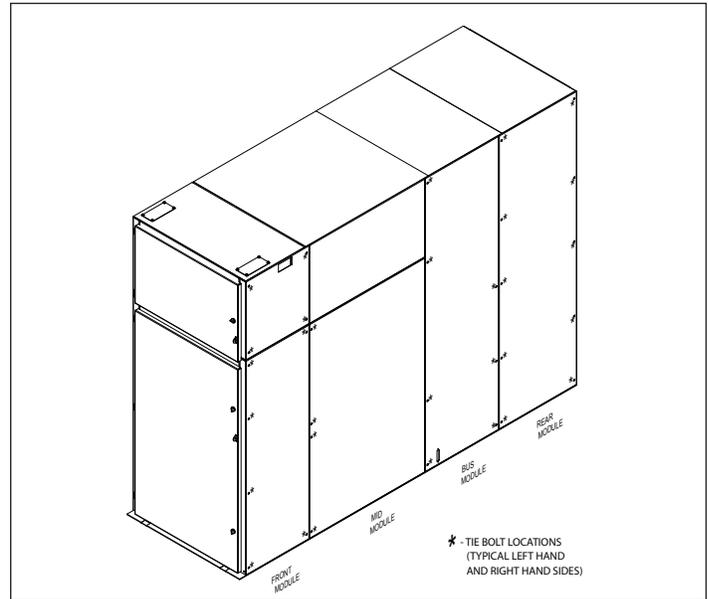

Figure 3. Tie Bolt Locations.
- a. Remove the back covers from the vertical sections on each side of the shipping group. Install tie bolts between shipping groups. After all tie bolts are installed, tighten tie bolts down. There are ten tie bolt locations in the rear module (five in the front, five in the back) and eight tie bolt locations in the bus module (four in the front, four in the rear). Figure 3 shows the location of the tie bolts.
- b. Open the front panels on the vertical sections. Insert and tighten tie bolts between the front upright members. There are four tie bolt locations in the control module, five tie bolt locations in the front module, and four tie bolt locations in the mid module. Figure 3 shows the location of the tie bolts.
- a. Remove the back covers from the vertical sections on each side of the shipping group. Install tie bolts between shipping groups. After all tie bolts are installed, tighten tie bolts down. There are ten tie bolt locations in the rear module (five in the front, five in the back) and eight tie bolt locations in the bus module (four in the front, four in the rear). **Figure 3** shows the location of the tie bolts.
- b. Open the front panels on the vertical sections. Insert and tighten tie bolts between the front upright members. There are four tie bolt locations in the control module, five tie bolt locations in the front module, and four tie bolt locations in the mid module. **Figure 3** shows the location of the tie bolts.
2. With all the groups in place, tie bolt the aisle walls and switchgear units together. (There are 10 aisle wall tie bolt locations.) Refer to **Figure 3** on **Page 4** for the location of the unit tie bolt locations.